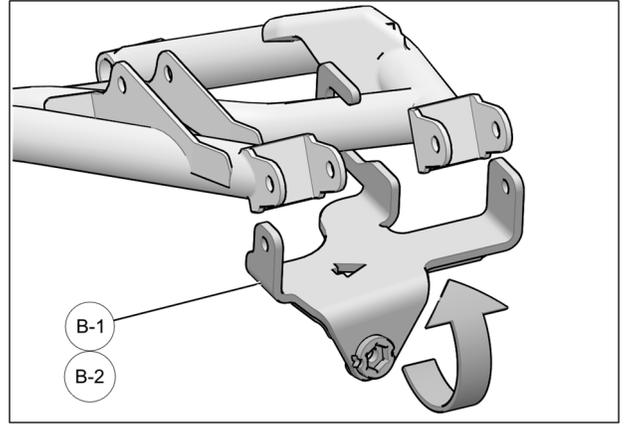

Fig. 6
6. Rotate bracket upward to align its holes with the holes in the suspension arm. See Fig. 6